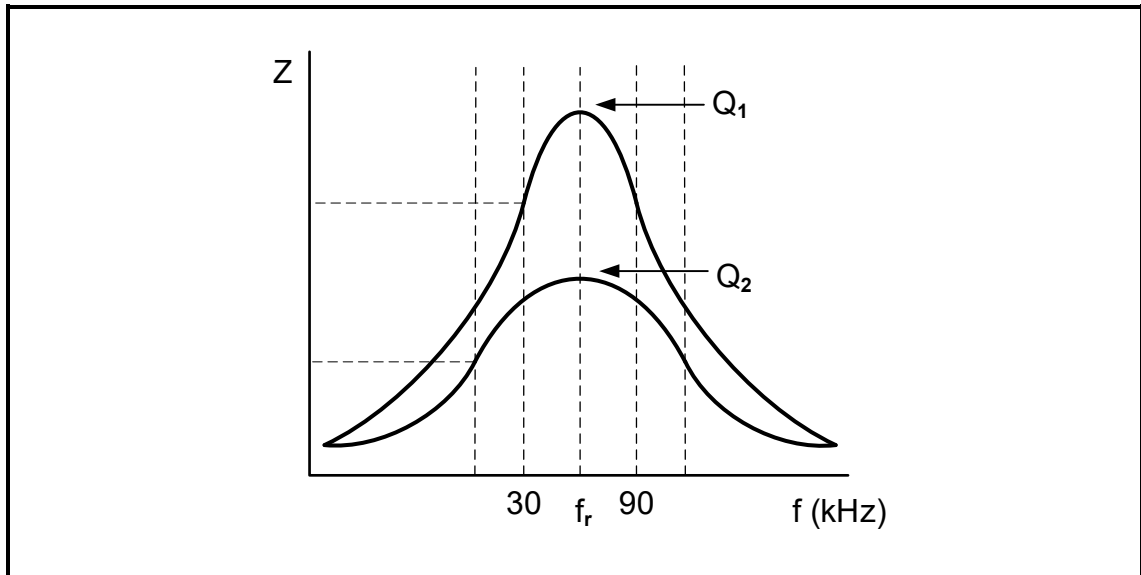

FIGURE 3.5: Q-FACTOR CHARACTERISTIC CURVE
3.5 FIGURE 3.5 below shows the Q-factor characteristic curve of an RLC circuit, NOT drawn to scale. Q_1 and Q_2 indicate how a change in the L/C ratio affects the Q-factor of a resonant circuit. Answer the questions that follow.